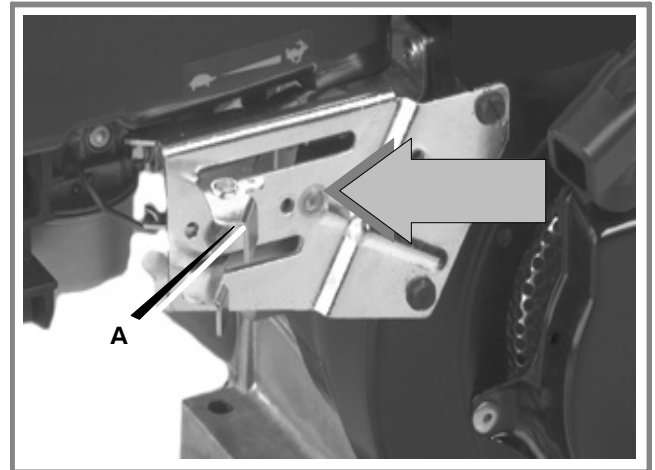
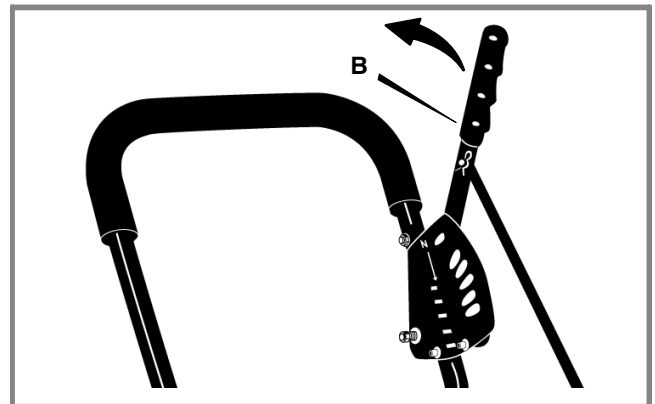

Figure 14: Engine Controls
Figure 15: Clutch Lever
To immediately stop the engine and the blade, move the throttle control (A), located on the engine, to the stop position (see Figure 14).
To immediately stop only the blade, pull the clutch/depth control lever (B) all the way back to raise and disengage the blade (see Figure 15).
First, move the clutch/depth control lever (B) back to raise and disengage the blade (see Figure 15). Then, move the throttle control (A), located on the engine, to stop (see Figure 14).
- 2 During normal use, run the engine at full speed  (see Figure 14).